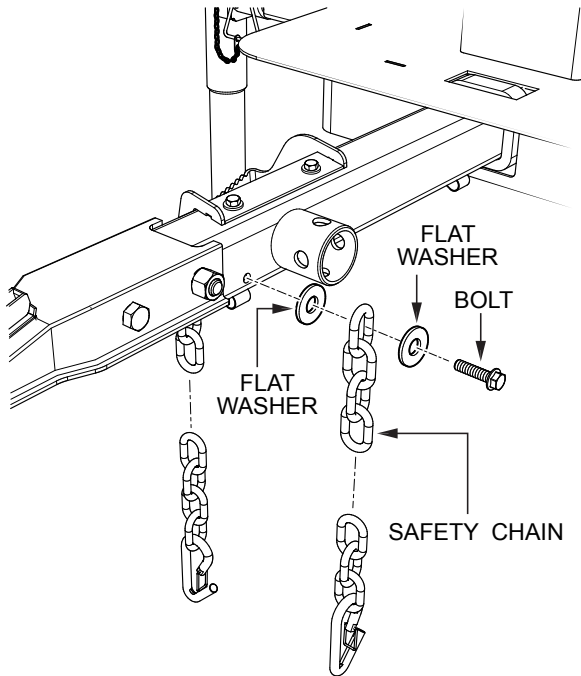

Figure 7. Safety Chain Removal
- Remove the bolt and washers that secure the safety chain to the tow bar (Figure 7).